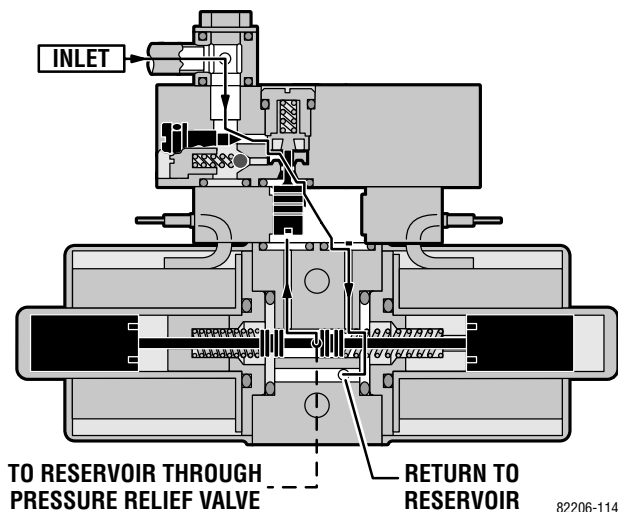

**Figure 1-13. Single Action Brake Cylinder**
6. Brake Cylinders - The brake cylinders are single action type similar to the elevation cylinder. The movable piston's ram is connected to a brake pad. See figure 1-13. Oil pumped into the top of the cylinder pushes the piston down raising the table base off its casters. An internal return spring pushes the piston up to return the oil through the mini-valve to the reservoir.